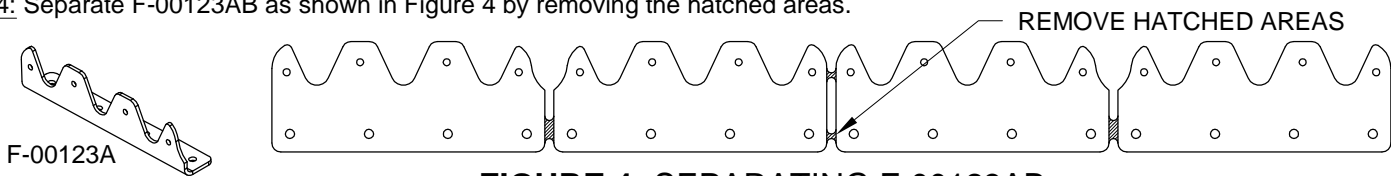

FIGURE 4: SEPARATING F-00123AB
Step 4: Separate F-00123AB as shown in Figure 4 by removing the hatched areas.